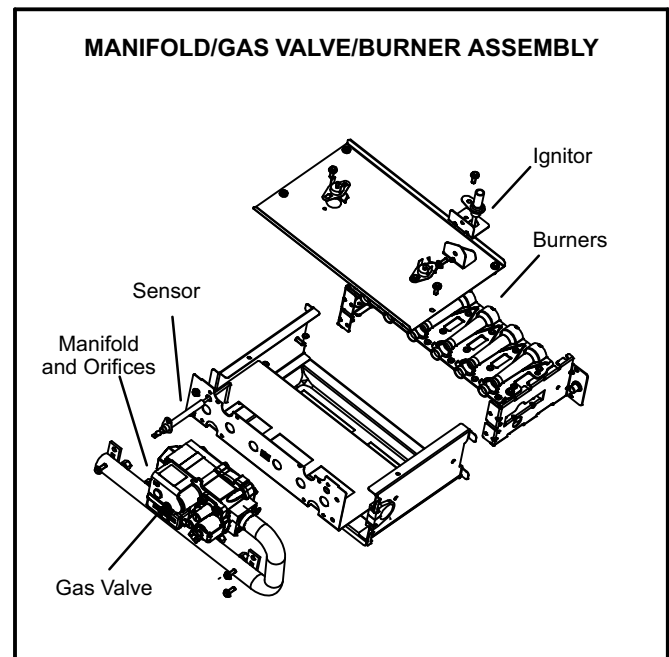

Figure 1
- 5 - Remove the four manifold securing screws. Remove the manifold/gas valve assembly. Replace the main burner orifices with the provided orifices. Torque to approximately 4.60 kgf-m. See figure 1.